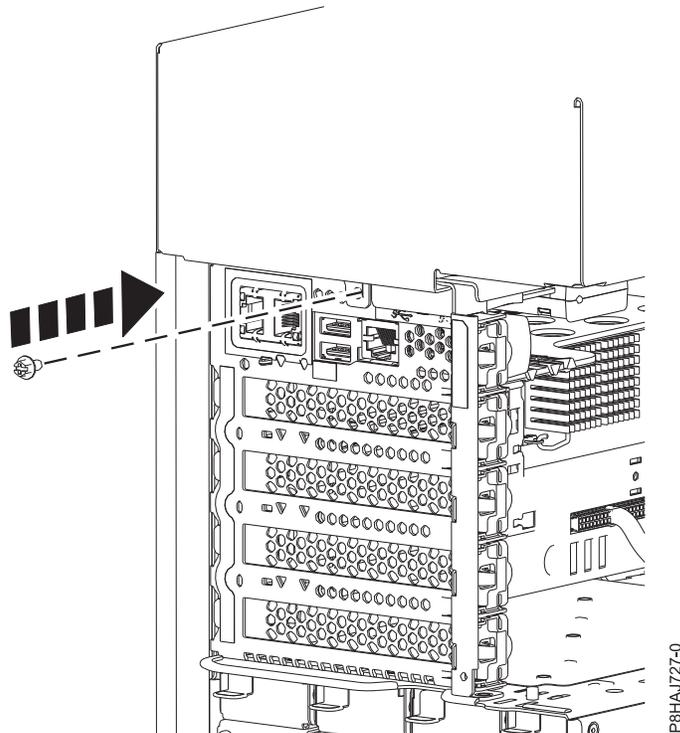

Figure 19. Installing the 8286-41A side cover screw
5. Install the side cover rear screw with a Phillips screwdriver as shown in Figure 19 on page 33.